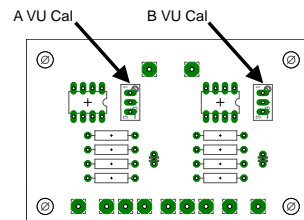

Fig. 5 VU Meter Amplifier PCB
5. Set the Meter Calibration trimmer potentiometer for 0 VU on the VT-2 meter(s). Be sure the meter is turned on. This control is a 20-turn pot so the adjustment is easy. A small screwdriver or alignment tool is necessary. The controls are located on the meter amplifier printed circuit board on the top of the chassis and they are the only trim pot(s) on the VT-1/VT-2. See Figure 5 on page 38.